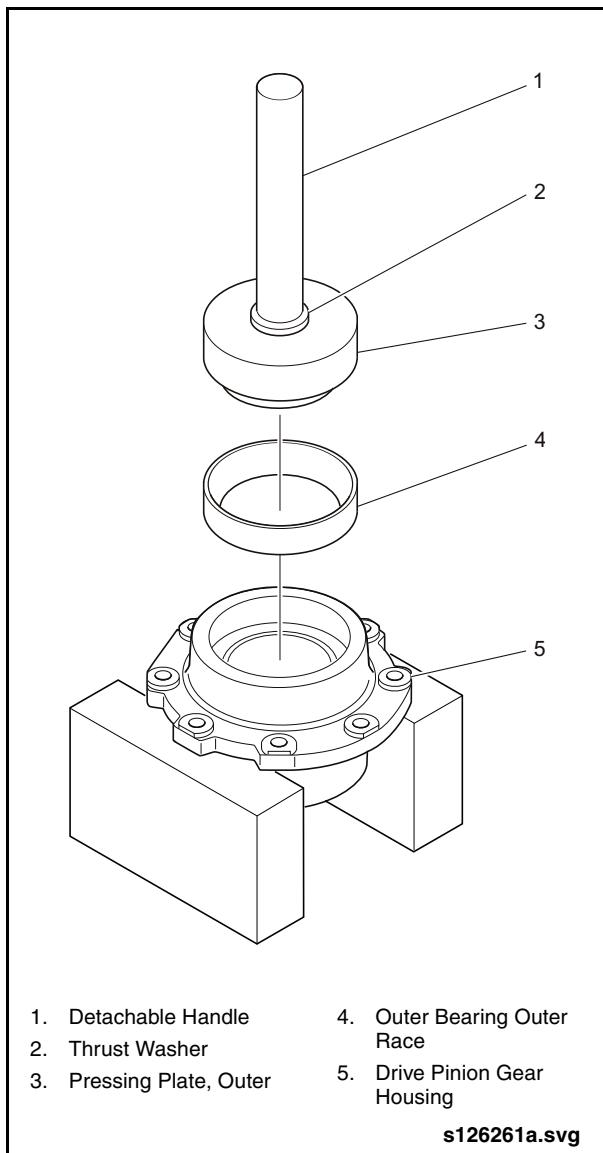

Fig. 2-95: Installing Outer Bearing Outer Race
1. Assemble the Outer Pressing Plate with the Detachable Handle and Thrust Washer (Items 18, 33 & 15 from Special Tools List). See “Fig. 2-95: Installing Outer Bearing Outer Race” on page 78.